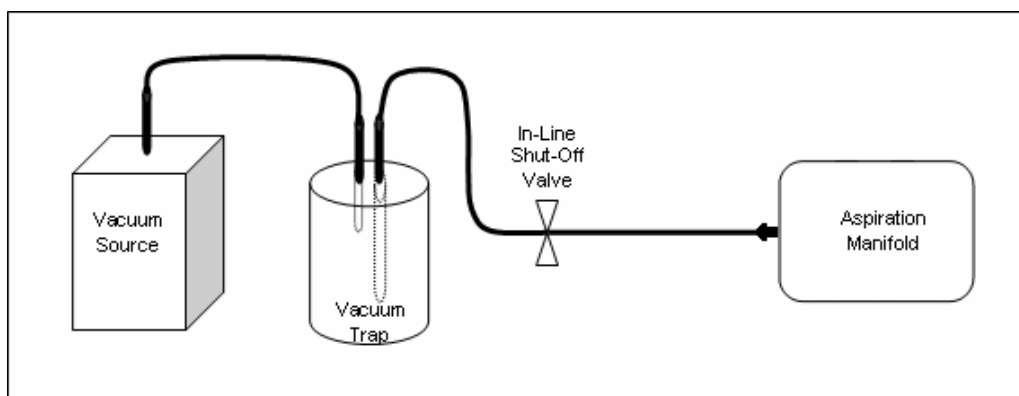

Figure 5: Vacuum System Connection
1. Connect the vacuum source to a vacuum trap (Figure 5).